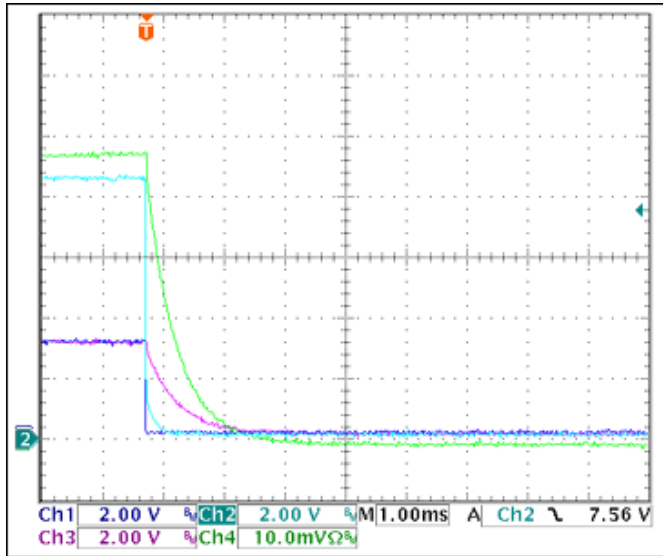

Figure 14. +3.3V overcurrent shutdown
+3.3V circuit-breaker shutdown at 3.22A (see **Figure 14**)
*Note that the particular current probe used in Figures 14, 17, and 20 shows only about 72% of true value. Circuit-breaker currents were measured using an adjustable constant-current load and noting the point where shutdown occurred.